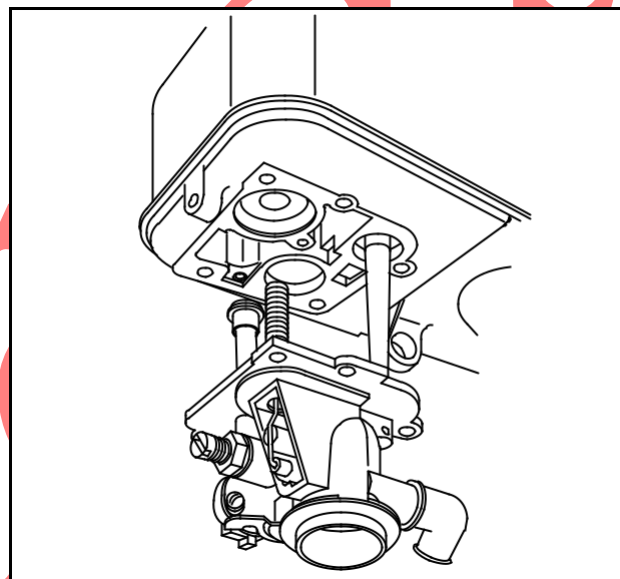

Fig. 243 - ASSEMBLING TANK TO CARBURETOR
2. Lower tank down onto carburetor, while guiding choke spring into spring well, Fig. 243.